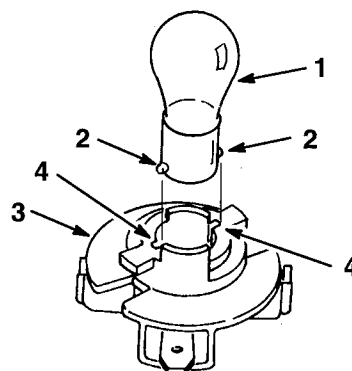

Figure 17
4. Push and rotate the bulb counterclockwise until it stops (approx. 1/4 turn) and remove bulb from the bulb holder (Fig. 17).
1. The bulb has metal pins on the side of its base. Align the pins with the slots in the bulb holder and insert the base into the holder (Fig. 17). Push and rotate the bulb clockwise until it stops.